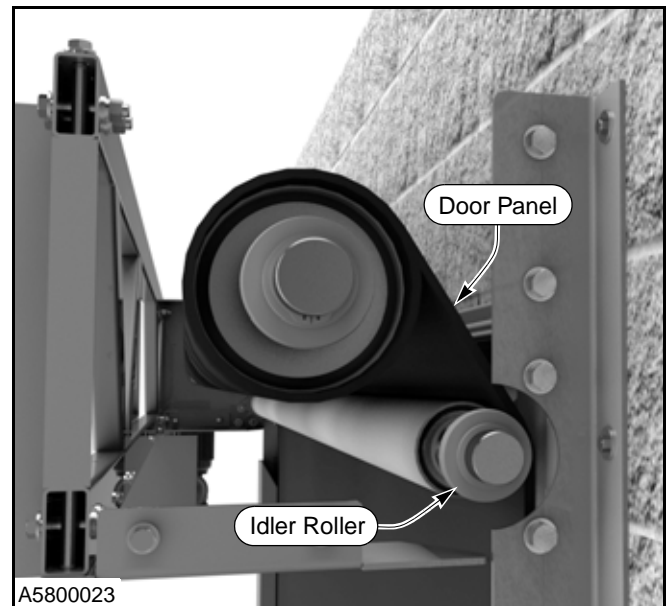

Figure 21
14. Check and adjust the routing of the bottom bar and door panel over the idler roller. (See Figure 21.)